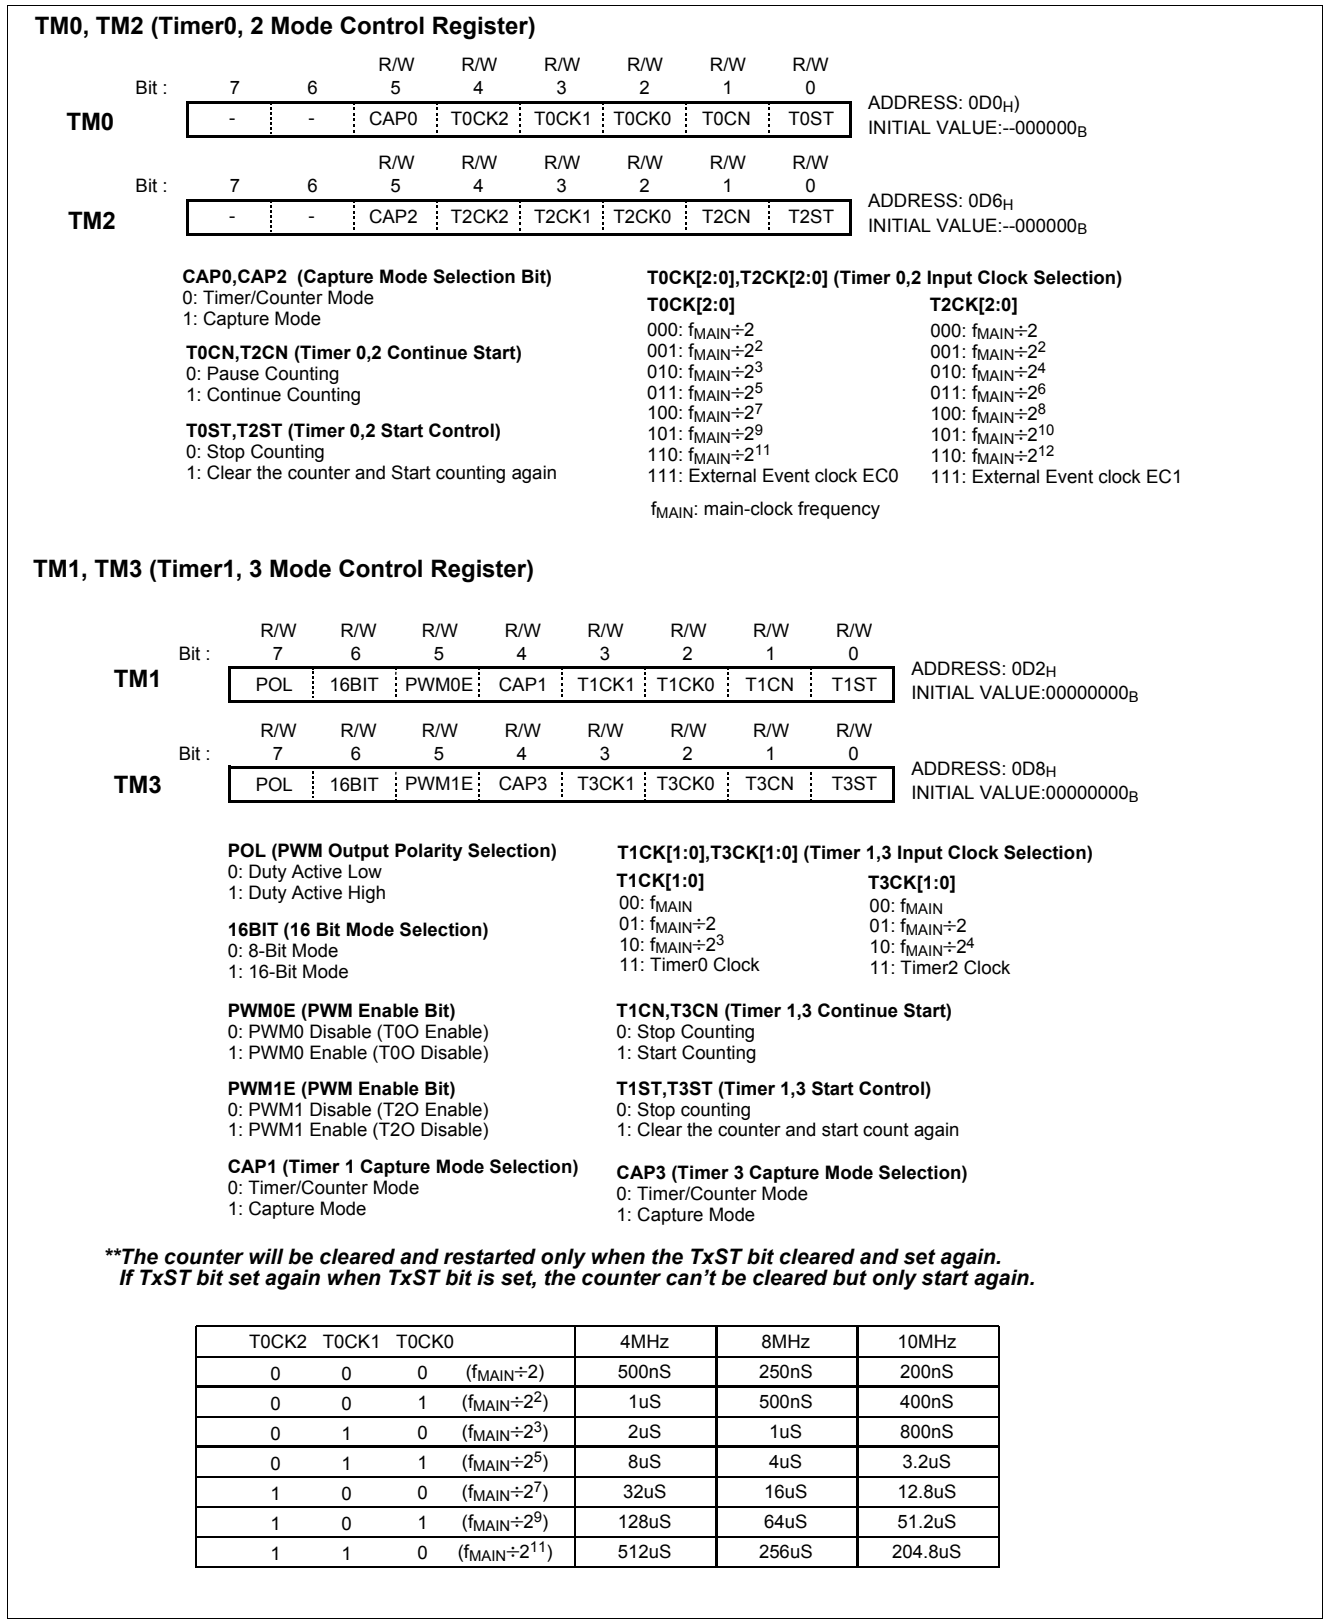

Figure 12-1 Timer0,1,2,3 Registers
isters TMx (x=0,1,2,3) as shown in Figure 12-1 and Table 12-1. To use as an 8-bit timer/counter mode, bit CAPx of TMx is cleared to “0” and bits 16BIT of TM1(3) should be cleared to “0” (Table 12-1).